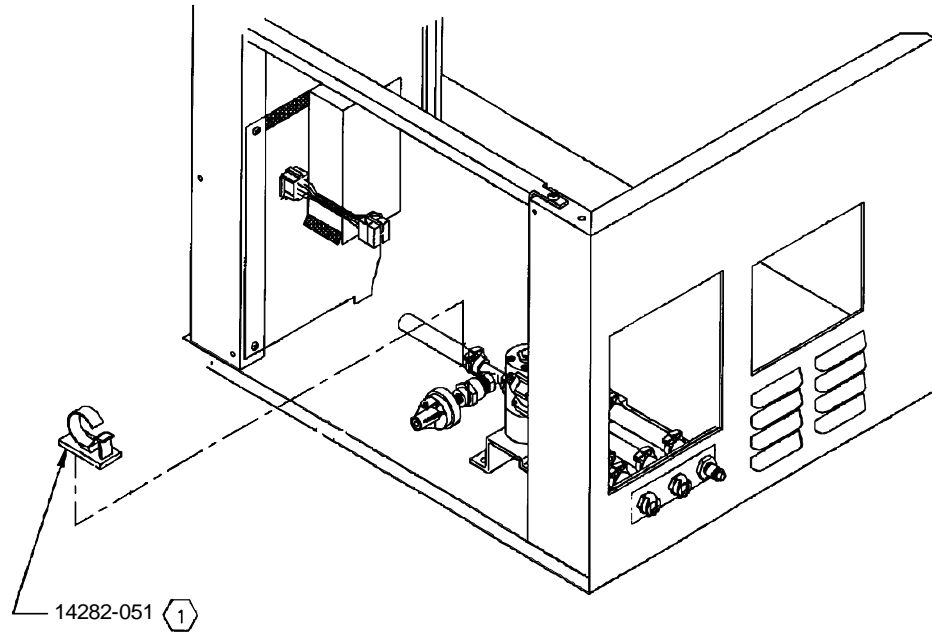

Figure 3: Valve Mount Assembly, Rear View
- b) Install the -02 (CE-Mark) valve mount assembly. Place the new valve mount shield between the valve mount and the PPC™ instrument side panel. Add the new locking clamp (14182-051) to better secure the waste pressure switch as shown in **Figure 3**.